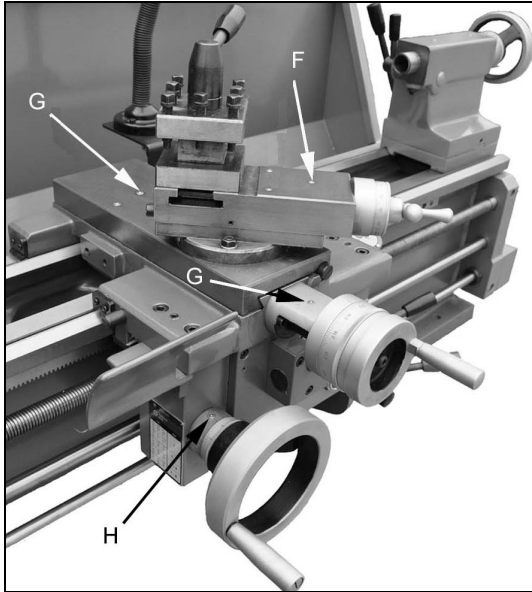

Figure 6-4
7. **Compound Rest** – Lubricate three ball oilers (F, Figure 6-4) once daily with Mobil DTE® Oil Heavy Medium.
8. **Cross Slide** – Lubricate four ball oilers (G, Figure 6-4) once daily with Mobil DTE® Oil Heavy Medium.
9. **Longitudinal Feed Handwheel** – Lubricate ball oiler (H, Figure 6-4) once daily with Mobil DTE® Oil Heavy Medium.